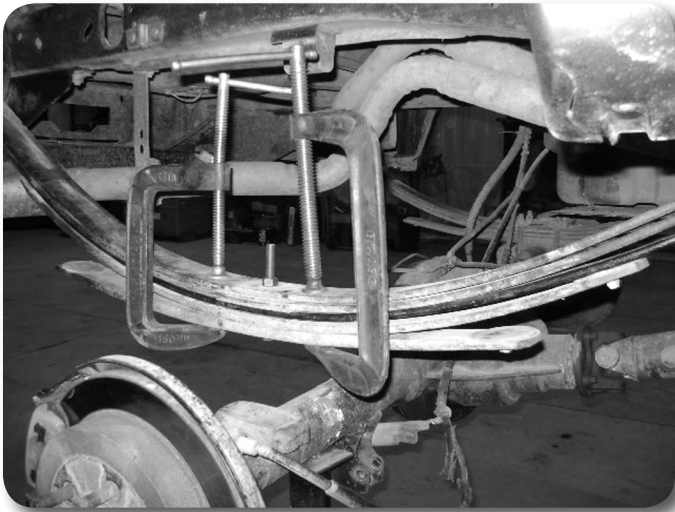

Figure 23
11. Use the C-clamps to compress the leaf pack in the same manner as before and install the provided center pin. **Figure 23** Do not draw the leaf pack together with the center pin. Torque the center pin to 25 ft-lbs. Cut off any excess center pin.